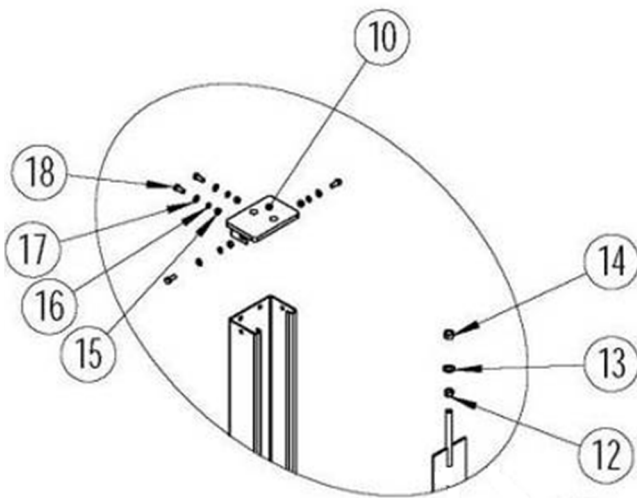

Fig. 5b
13. Secure Top Cap and Lock Ladder assemblies together with Washer (#13) and Nut (#14) as shown in Fig 5b. **Note: Ensure Jam Nut (#12) is positioned below Top Caps.** Position the Crossbeams at the second lowest locking position on all columns.